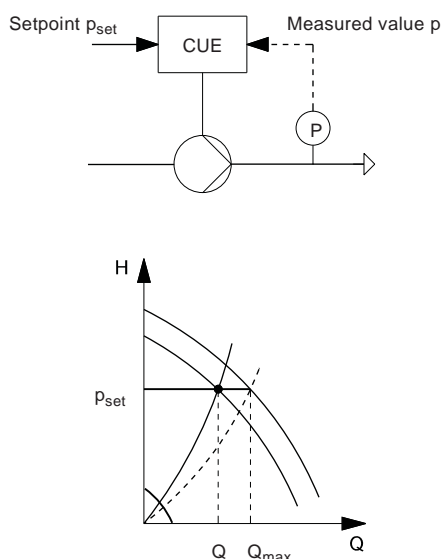

Fig. 21 Constant pressure control
The PID controller compares the required setpoint (p_{set}) with the actual value (p) measured by the transmitter (P). See fig. 21.